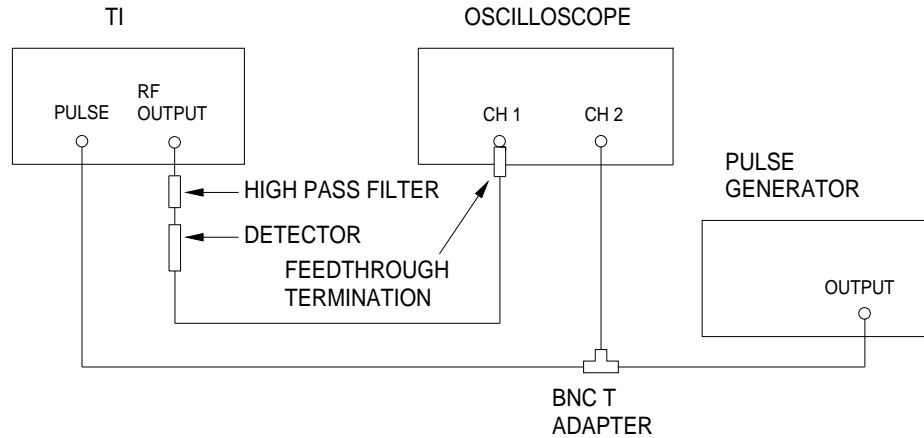

Figure 6.
4.9.2.2 Connect equipment as shown in Figure 6.